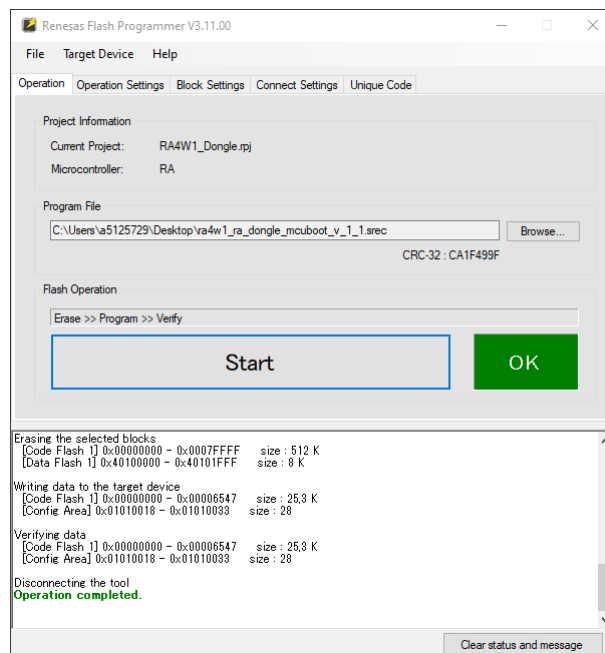

Figure 9. Successful Programming Window
8. When the process completes successfully you should see a green OK message in a rectangular window next to the **Start** button (Figure 9). Disconnect the USB cable. Disconnect the Renesas E2 Emulator/ E2 Emulator Lite from the dongle and close the Renesas Flash programmer. The bootloader programming process is completed.